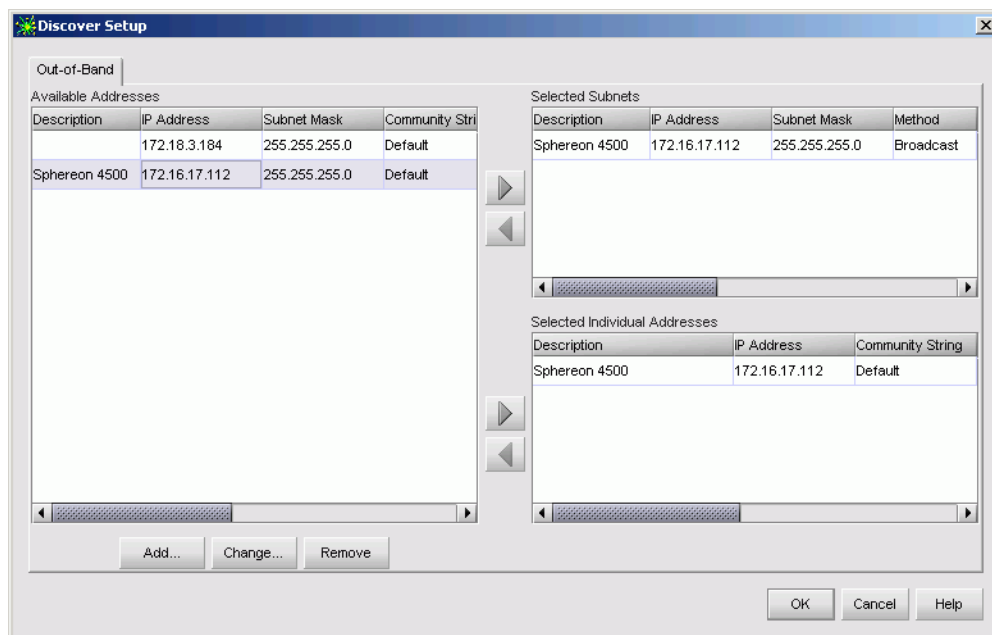

Figure 2-71 Discover Setup Dialog Box
1. At the SAN management application (SANavigator or EFCM main window), select the *Setup* option from the *Discover* menu. The *Discover Setup* dialog box displays (Figure 2-71).